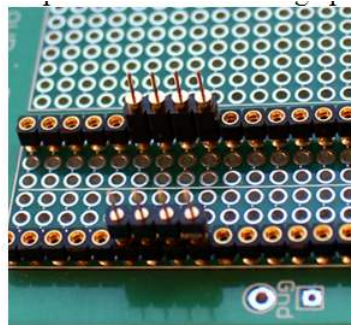

Figure 5. 4-Pin Length Terminal Strips Inserted in DIP Socket
5. Insert header strips into a spare DIP socket as shown in Figure 5.